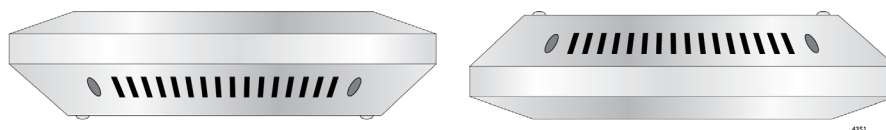

Figure 18. Correct Orientation on a Tabletop and Ceiling
- ❑ The access points can be installed on a table and ceiling. See Figure 18 for correct orientations.